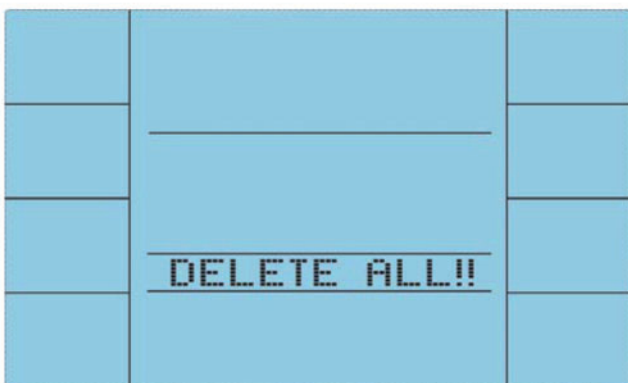

Fig. 59
3. Delete all data: Press SAVE.DELETE for six seconds in the calendar setting or in the RECORDED DATA control. DELETE ALL! is displayed (fig. 59). Confirm with ENTER.
3. Delete all data: Press SAVE/DELETE for six seconds in the calendar setting or in the RECORDED DATA control. DELETE ALL! is displayed (fig. 59). Confirm with ENTER.